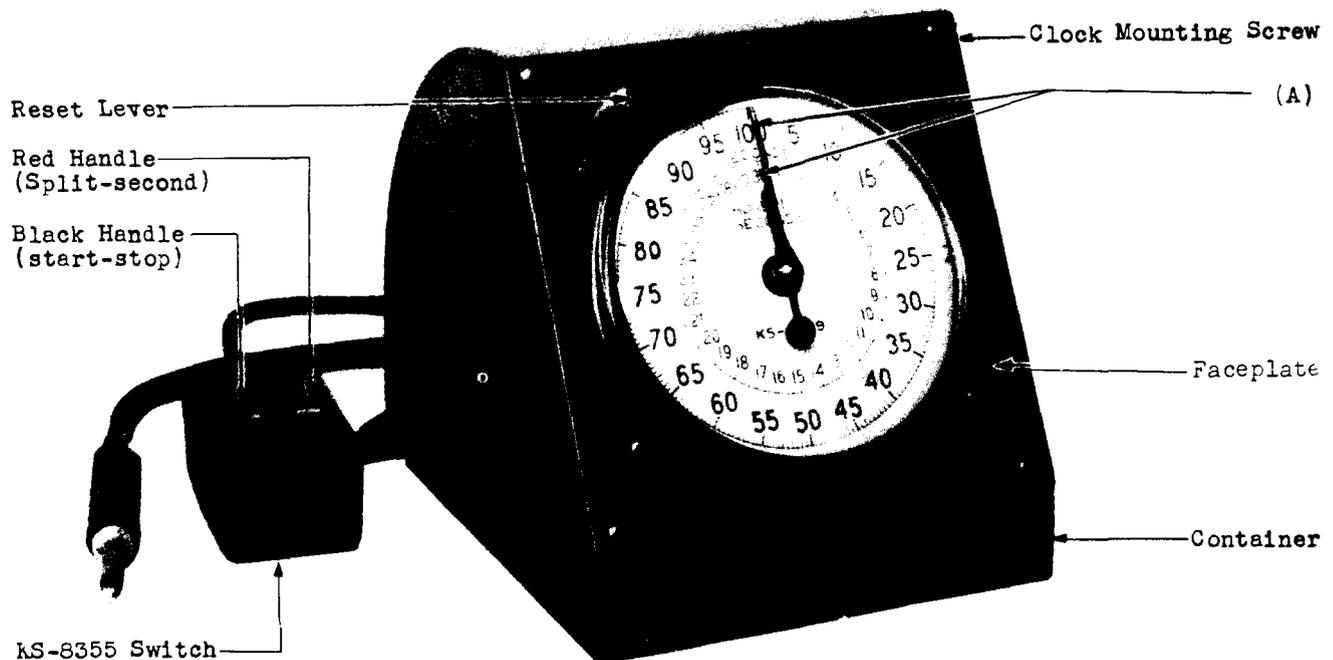

Fig. 1 - KS-8259 Electric Stop Clock
(d) Fig. 1 (A) - When the hands restore to normal, the elapsed-time and split-second hands shall point to the graduated line indicating 100 on the seconds dial and the totalizing hand shall point to the graduated line indicating 30 on the 100 seconds dial.